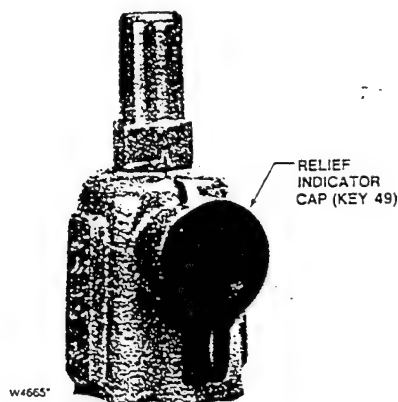

Figure 4. Relief Indicator
The vent assembly is equipped with a relief indicator (key 49, figure 4). The cap for the relief indicator snaps over the vent assembly opening. If the relief valve opens wide, exhaust gas pops the cap off the screen vent assembly opening indicating a problem with the regulator. If the cap pops off, refer to the shutdown and to the body area maintenance procedures to inspect the disk assembly and seat ring.